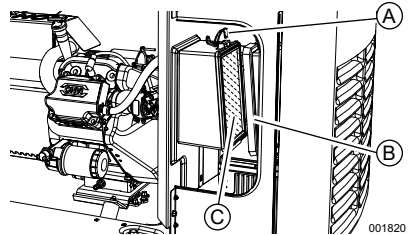
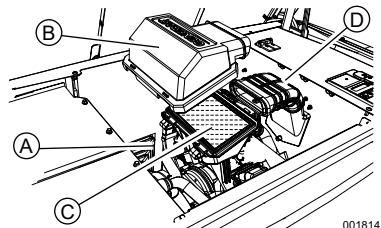

Figure 4-4. Servicing Air Cleaner (10 kW)
Figure 4-5. Servicing Air Cleaner (14-26 kW)
3. See Figure 4-4 or Figure 4-5. Remove cover clips (A) and air cleaner cover (B).